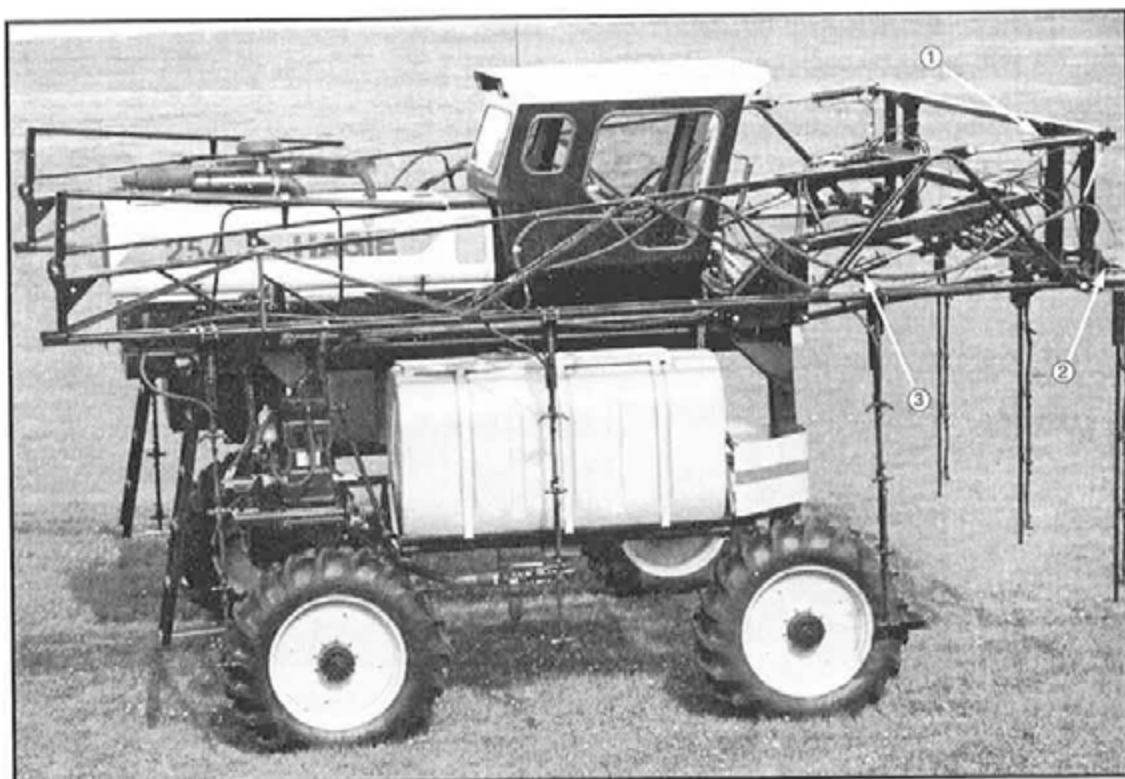

FIG 5.13
The sprayer has hydraulic cylinders which aid in lifting the transom and booms for height adjustment (fig. 5.13, item 3), adjusting each boom separately for a level spraying pattern (fig. 5.13, item 2), and folding the booms in toward the machine during transportation and storage (fig. 5.13, item 1). For more information on boom control adjustment see pages 40-43.